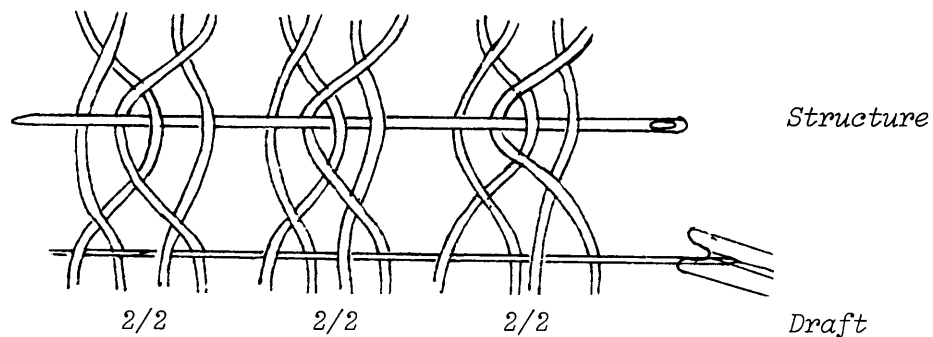

Fig. 3 *Antique Mexican Doubles*
2. Antique Mexican Doubles (illustrated in Fig. 3).